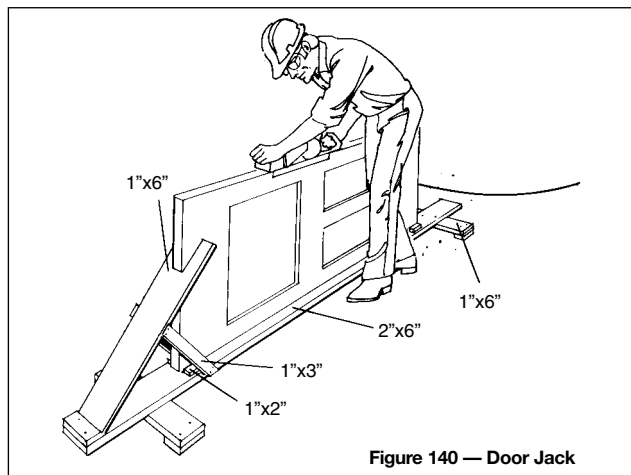

Figure 140 — Door Jack
- When planing doors and large pieces of plywood, use a jack (Figure 140) to secure material and keep edges clear of dirt and grit.